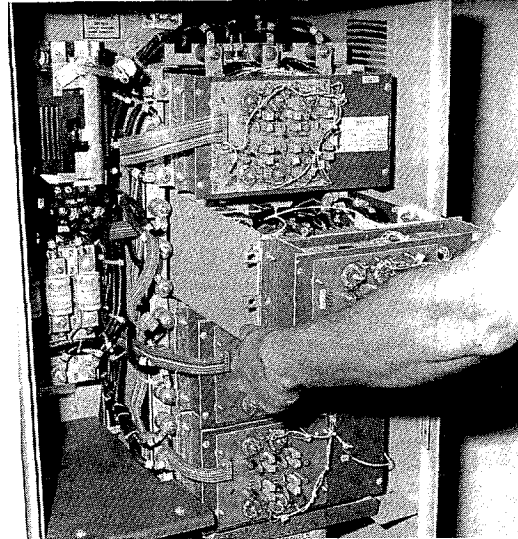

FIGURE 11
6. Carefully pull the module(s) out of the rack using the red plastic insulation cover in front of the module (See Figure 11).
7. See (1) Press-Pak SCR Replacement — Phase Module or (2) stud mounted SCR Replacement — Phase Module or (3) Press-Pak SCR and stud mounted SCR Replacement — Phase Module.